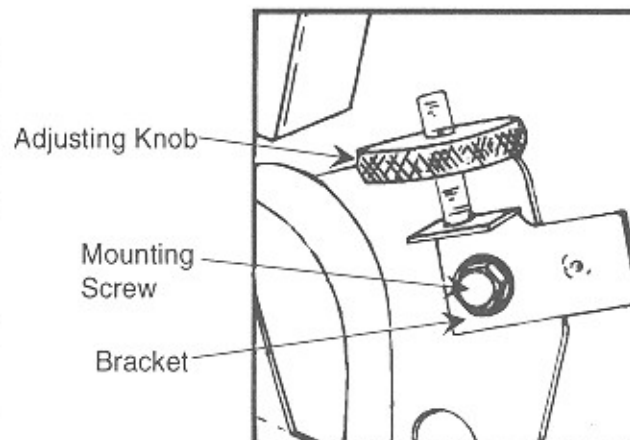

Figure 6-5. Optical Switch Adjustment
2. Loosen the optical switch bracket mounting screw, turn the adjustment knob counterclockwise to the top of its travel, and move the bracket down to the bottom of its travel (*Refer to Figure 6-5*). Snug the optical switch mounting screw so the bracket can move with resistance.